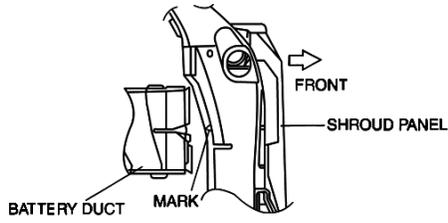

Fig. 5 Battery duct installation
5. Install battery duct. Match mark of shroud panel and notch in battery duct, and install battery duct to shroud panel, **Fig. 5**.